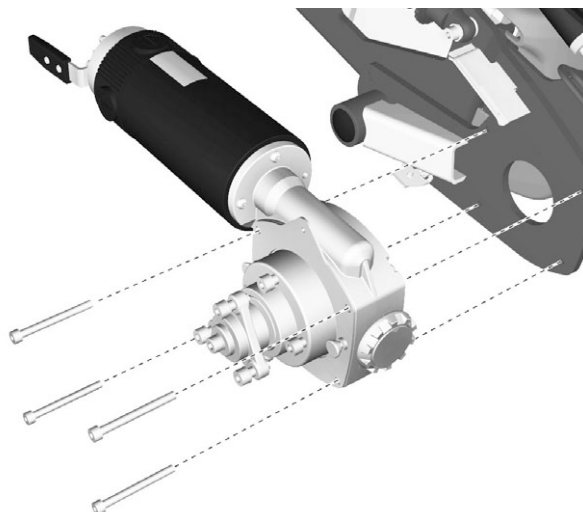

Figure 57. Fitting/removing the Drive motor.
8. Remove the drive motor, it's fitted with four screws. See fig. 57.